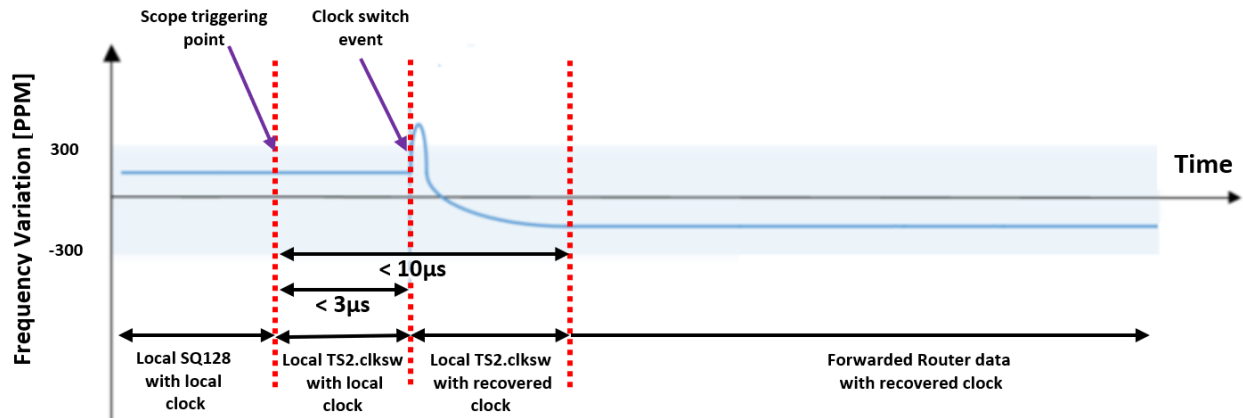

Figure 3. Frequency variation dynamics example
5. Capture the clock switch event over three stages: pre-clock switch, clock switch and post-clock switch in a single waveform as depicted in a Figure 3